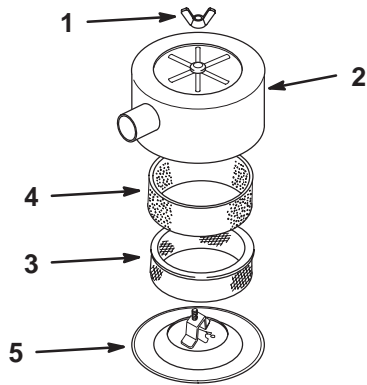

Figure 10
3. Clean around the air cleaner to prevent dirt from getting into the engine and causing damage. Unscrew the knob and remove the air cleaner cover (Fig. 10).
4. Carefully slide the foam element off of the paper element (Fig. 10).
5. Unscrew the cover nut and remove the cover and paper element (Fig. 10).
1. Carefully slide the foam element onto the paper air cleaner element (Fig. 10).
2. Place the air cleaner assembly onto the air cleaner base (Fig. 10).